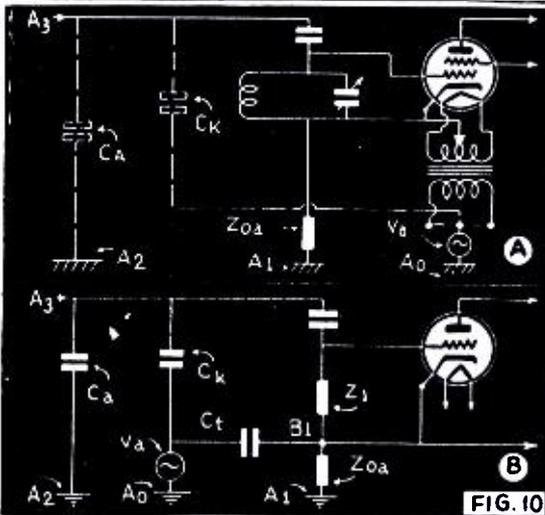
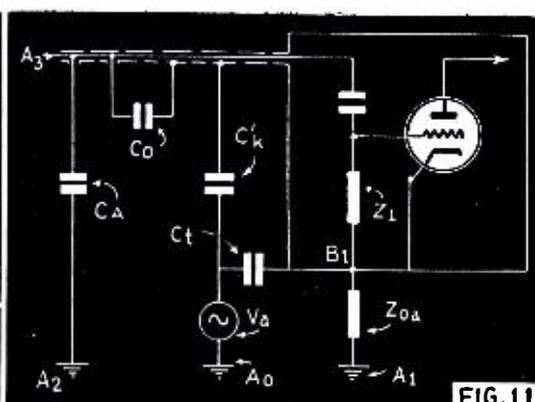

FIG. 10
FIG. 11
Fig. 10. Circuit of the input of a radio receiving set (A) with the corresponding equivalent circuit (B). The aerial A3 is loosely coupled with the tuned circuit represented by Z1. The aerial lead wire possesses stray capacities Ca toward ground (A2), and Ck toward the source of interference Va. The ground point B1 of the receiving set is connected with ground A1 over the ground impedance Z0a. The capacitive coupling of the source of interference Va with the supply side of the receiving set over the supply transformer is represented by Ct.
In Fig. 10 a diagram is given of the input of a radio receiving set, accompanied by an equivalent circuit (\*). Those interferences which are capable of causing the occurrence of an appreciable interference between the cathode and the grid of the receiving tube, i.e., over Z1, in the equivalent circuit, will be disturbing for radio reception. We must keep in mind here that in the practical case of a good receiver care is taken that the capacitive coupling Ct between the primary and the secondary winding of the supply transformer is made sufficiently small, so that one need not in general fear that disturbing interference voltages will act across Z1 by way of the circuit Va, Ct, Z1, Ca, A2, A0. If this should be the case the impedance of this circuit can be increased by introducing a high-frequency choke coil in series with Ct, i.e., in the primary circuit of the supply transformer; the impedance of the primary is large with respect to that of Ct and also with respect to the ground impedance Z0a, so that the interference current still flowing through Ct can easily flow off to ground (A1) and only an extremely small fraction passes through Z1 and Ca to A2.
Fig. 11. Interference suppression in the radio set of Fig. 10 by means of shielding the aerial (dotted line). This shielding is connected with the ground point B1 of the receiver which is connected with ground (A1) via Z0a. The shielding has a capacitive coupling C0 with the aerial connecting wire and Ck' with the source of interference Va. The latter can no longer, as in Fig. 10, cause an interference to penetrate into the receiving set by way of the aerial connection.
This shielding is obtained by the use of shielded cable, whose core, which serves as aerial lead, has only a low capacity with respect to the grounded metal covering. The capacity C0 in Fig. 11 is therefore small, so that the intensity of reception is not thereby decreased disturbingly. The grounding of the metal casing is done by connecting it with the ground point B1 of the receiver, as indicated in Fig. 11. As a result the interference voltage Va can now no longer cause an interference current to penetrate into the receiving set over the aerial input by means of a capacitive coupling (Ck in Fig. 10) between supply line and aerial input lead, because the coupling capacity (Ck' in Fig. 11) means only an increase of the capacity Ct of the transformer windings.
The only circuit over which an interference current can now pass through Z1 is: Va, Ct + Ck', Z1, Ca, A2, A0. Just as was noted in the discussion of the circuit over Ct and Z1 in Fig. 10, here also no disturbing interference currents will flow in the circuit of Ct + Ck' and Z1 in Fig. 11, if only the ground impedance Z0a can be made small enough with respect to the impedance of the capacity Ct + Ck'. Practically the interference current is then immediately conducted to ground (A1) through Z0a. The suppression of interference which can be